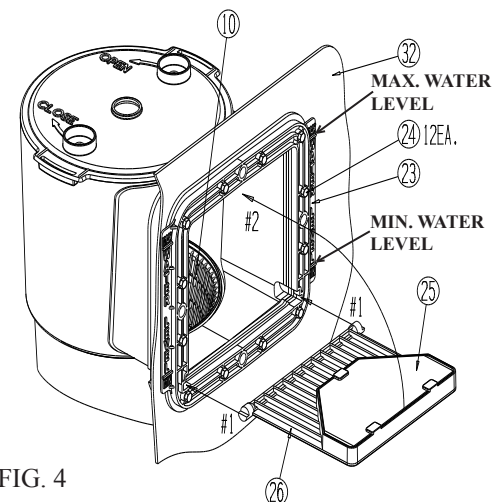

FIG. 4
- Place the Filter Cartridge (9) and the Strainer Basket (10) back into the Skimmer Canister (8). It is important that the Filter Cartridge (9) slips over the Pump Retaining Nut (7) and seals at the bottom of the canister so that the Strainer Basket (10) will seat in it's groove inside the canister. See Fig. 4. Place the Lock Top (11) on top of the Skimmer Canister (8) and lock it in place by turning it clockwise until it is locked. Push the Weir Foam Pad (25) into the Weir (26) and under the tabs, to hold it in place. Take the Weir (26) and slide it into the grooves from inside the pool. See Fig. 4. Once the weir is pushed inside the grooves, flip it over as shown by the Arrow #2 in Fig. 4, to lock it in place. **NOTE:** The weir can **ONLY** be pushed into the grooves as shown by Arrows #1 in Fig. 4, by holding it horizontal. Be sure the weir moves freely through the opening, if not carefully trim away any obstructing material to allow the weir to move freely.
- After the pool is filled, SEE (WATER LEVEL FIG. 4) check the hose connections and fittings to make sure there is no water leakage. If any leaks are found, see #4 in the Trouble Shooting guide on page #8.